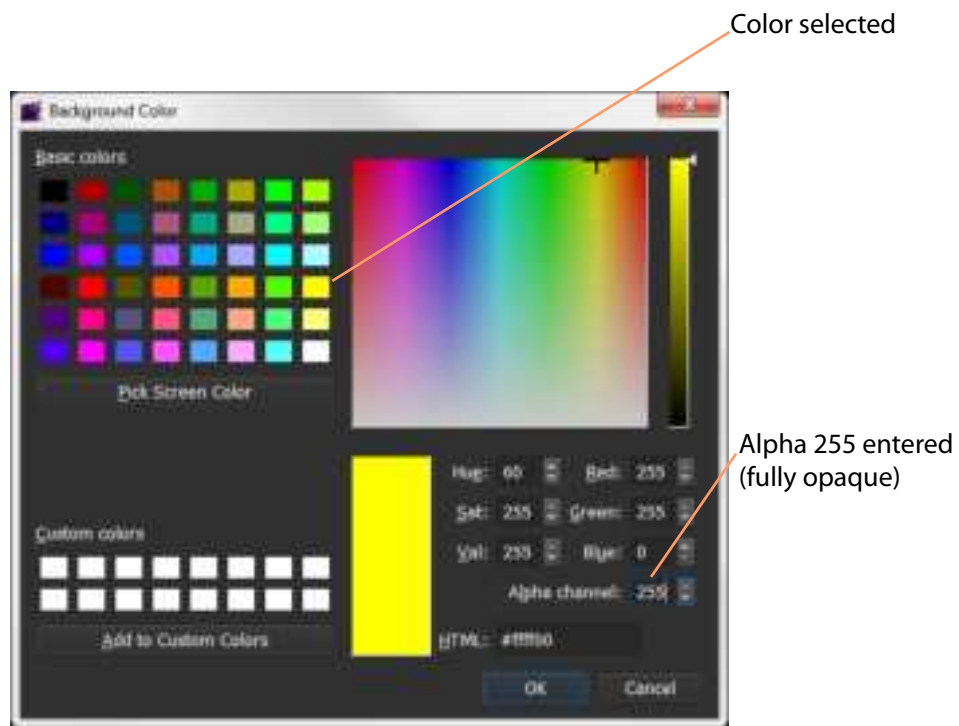

Fig. 6-84: Color Picked
- 5 Click on the ... icon to show the **Background Color** dialog. See Figure 6-84 on page 250.